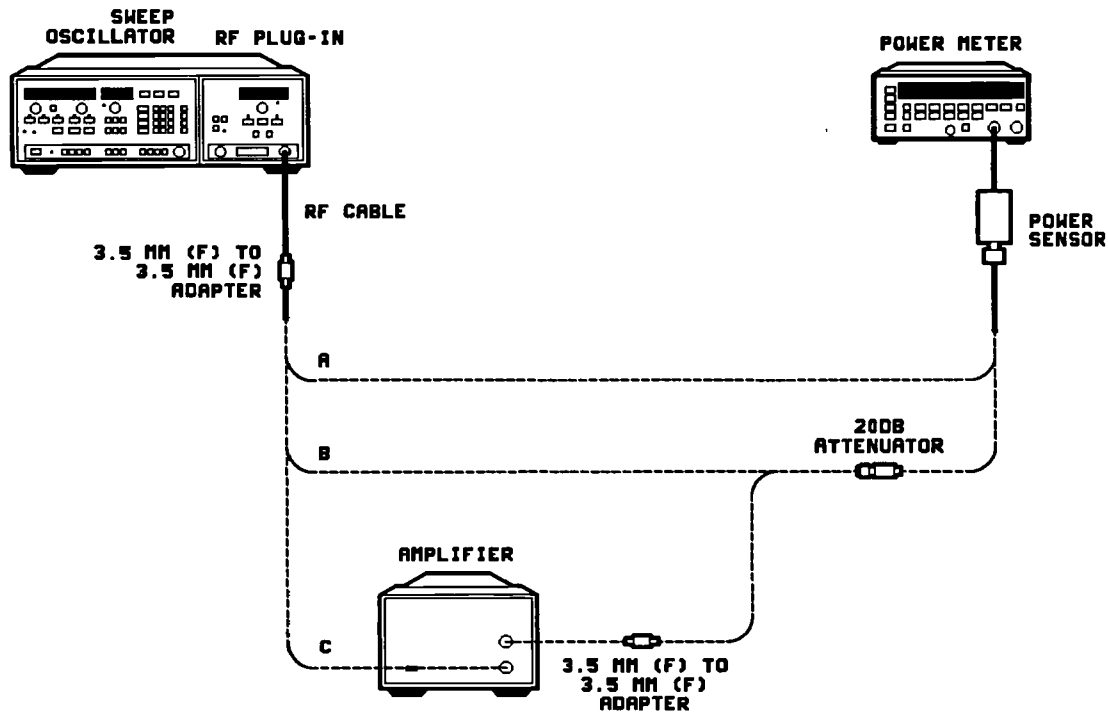

Figure 4-1. Maximum Output Power Test Setup
- a. Connect the equipment as shown in Figure 4-1, point Ⓐ, with the power sensor connected to the 3.5 mm(f) adapter (without the amplifier, the second 3.5 mm(f) adapter, or the 20 dB attenuator).
- a. Connect the 20 dB attenuator between the adapter and the power sensor, as shown in Figure 4-1, point ⑥.
- a. Connect the equipment as shown in Figure 4-1, point ⑦, with the amplifier and the second 3.5 mm(f) adapter connected between the first 3.5 mm(f) adapter and the power sensor (you must use the same 20 dB attenuator as in the previous steps).